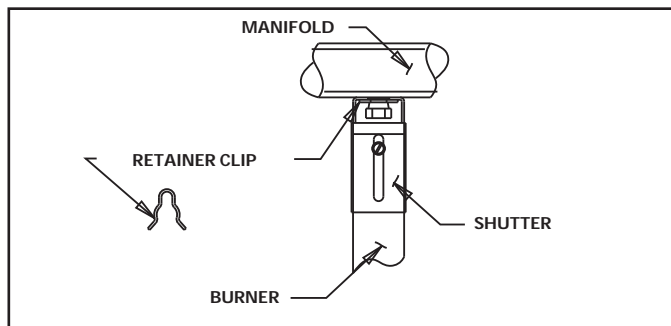

Figure 6. Burner/Manifold
- c) **BE SURE BURNERS ARE COOL BEFORE CONTINUING. NOTE LOCATION OF BURNER WITH PILOT. REMOVE THE BURNER RETAINER CLIP OF THE PILOT-BURNER. REMOVE THE BURNER. DISCONNECT THE PILOT TUBE AND EITHER THE THERMOCOUPLE FOR STANDING PILOT OR IGNITION WIRE FROM IGNITION CONTROL. (See figure 6).**